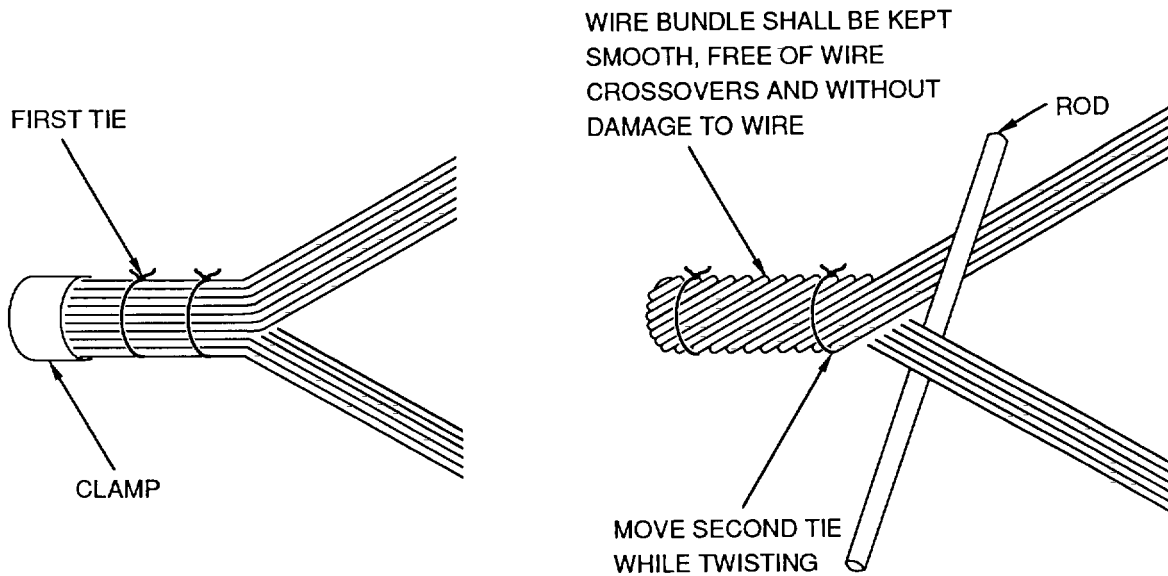

Figure 1. Bunch Twist Wire Bundle
d. Separate bundle into two equal groups and using a rod (such as a soldering aid) to maintain separation twist two groups (Figure 1).